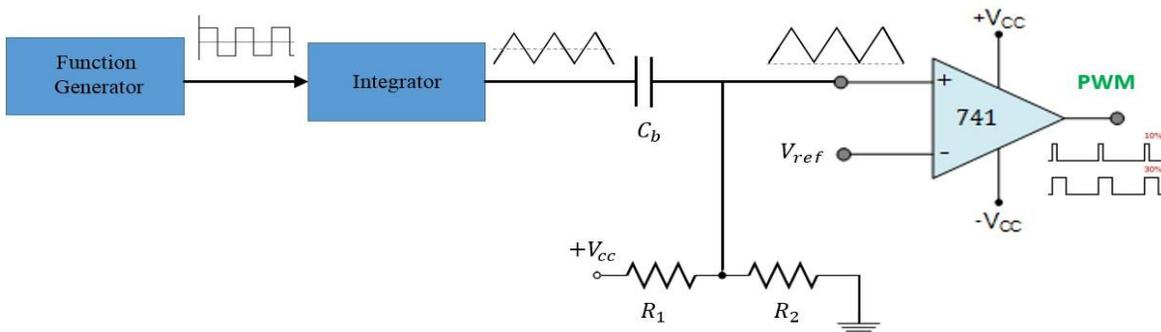

Fig. 6. PWM circuit for procedure step 4.
4. Refer to the block diagram of the PWM circuit in Fig. 6. The PWM circuit uses a second LM 741 op amp as the comparator. The triangle wave output from the integrator circuit is used as one of the comparator inputs, but with a dc offset added to it. The triangle wave is connected to a resistor divider offset circuit by blocking capacitor  $C_b$ . A third adjustable power supply voltage is used as  $V_{ref}$ .